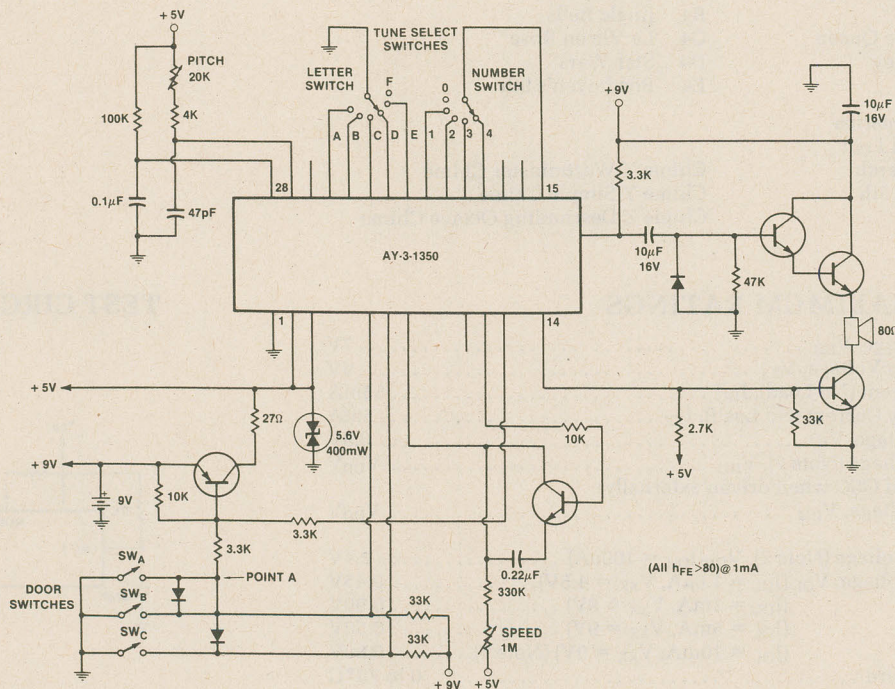

Figure 1—System Diagram
There are many ways to connect the standard device depending on the exact application. Figure 1 shows just one implementation of the device in a doorchime. This circuit gives access to all 25 tunes from switch A and one of 5 tunes from switch C as well as the descending active chime from switch B. The tune selected for switch B follows the tunes list according to the setting of the two tune select switches (A-E and 0-4). The tune selected from switch C in Figure 1 is one of the five tunes A0 through E0 depending on the setting of the letter switch. For example, with the letter switch set at E and the number switch set at 4, the tunes available will be:
There is virtually no power consumption in the standby condition (external transistor leakages only). When any door switch is activated the circuit powers up, plays a tune, and then automatically powers down again to conserve the battery, even if the operator keeps his finger on the switch to the end of the tune. He must release it and re-press to play again with the circuit in Figure 1. Activating any of the door switches will pull point A to ground turning on the PNP transistor in the power supply line. This causes +5V to be applied to the AY-3-1350 and the first operation of the chip is to put ON/OFF (pin 12) to logic 0. This maintains the power through the PNP, even after the switch is released. The device can turn off its own power at the end of a tune by raising ON/OFF to logic 1.
Figure 1 shows only a typical one-chip implementation. Further options come from use of different switching and/or from use of the next tune facilities built into the chip. These will now be considered in turn.
In Figure 1 the Switch C Group Select pin (16) is not connected, and one of the five tunes (A0 through E0) will play if switch C is activated. Other number groups can be chosen by connecting the Switch C Group Select pin as follows:
Using the power-up circuit of Figure 1, the AY-3-1350 will have +5V applied and be latched within a few microseconds (dependant upon external components) from any bell-push closing. The device starts to operate when the RESET pin reaches logic 1 (about 10ms with components shown) but in fact the tune select switches are not interrogated until approximately 6 ms later. The total is sufficient for most bell-pushes to complete any bounce period and for a firm selection of tunes to be made.
At the end of tune play the circuit of Figure 1 powers down because ON/OFF (pin 12) is raised to a logic 1. This simplified flow diagram in Figure 3 shows that before the power down there is a test for connection between NEXT TUNE (pin 10) then RESTART (pin 17) with TUNESELECT 4 (pin 9). At this time NEXT TUNE (pin 10) then RESTART (pin 17), which is normally at logic 1, output a logic 0. This is looked for at input TUNESELECT 4 (pin 9). If neither is found the power down system is reached as in Figure 1.